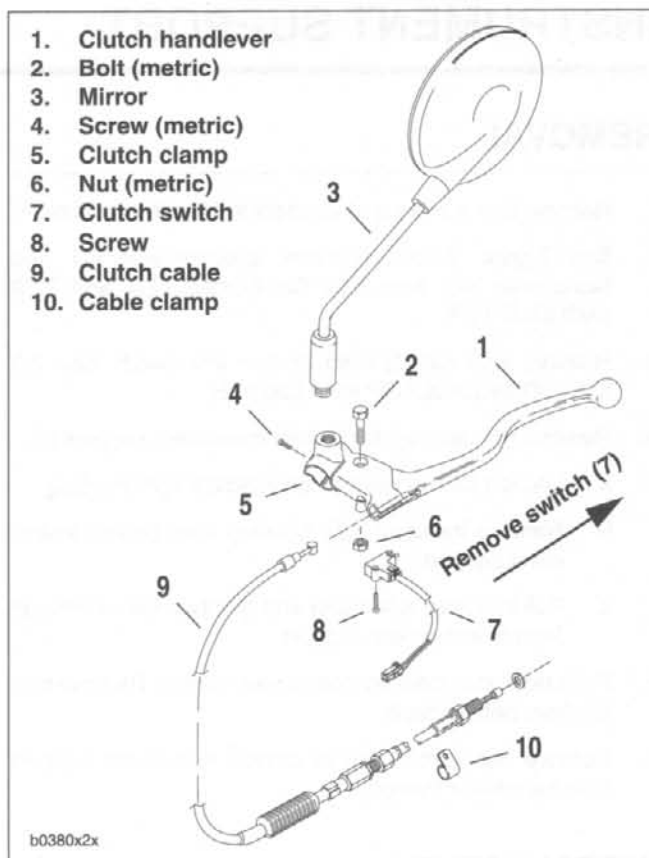

Figure 2-133. Clutch Hand Control
1. See Figure 2-133. Detach clutch switch (7).
- a. Remove screw (8).
1. See Figure 2-133. Attach clutch clamp (5) as follows.
- c. Place clamp next to switchgear housing. Fasten to handlebar with screw (4) (metric). Tighten to 30-35 in-lbs (3.4-4.0 Nm).
3. Apply small amount of LOCTITE ANTI-SEIZE LUBRICANT to bolt (2). Attach handlebar with bolt (2) (metric) and nut (6) (metric).
4. Attach clutch switch (7) with screw (8).